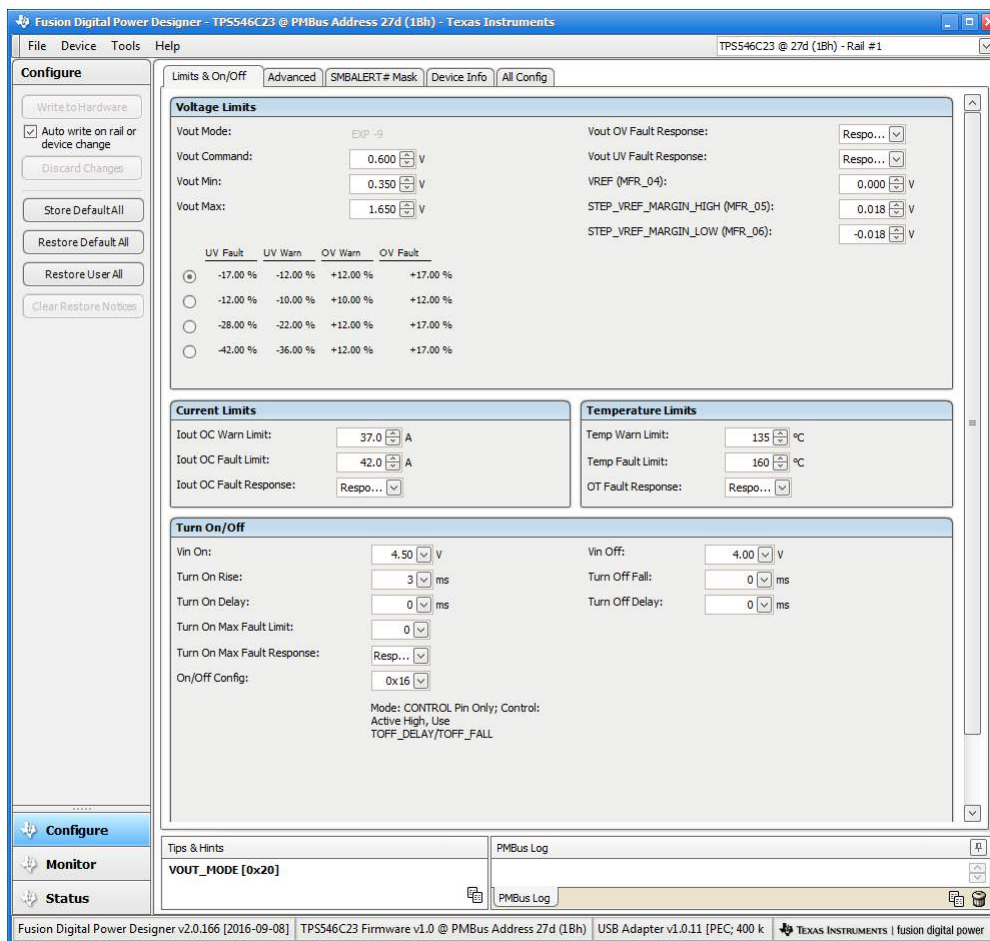

Figure 30. Configure- Limits and On/Off
- Use the **Limits & On/Off** tab Figure 30 to configure the following: